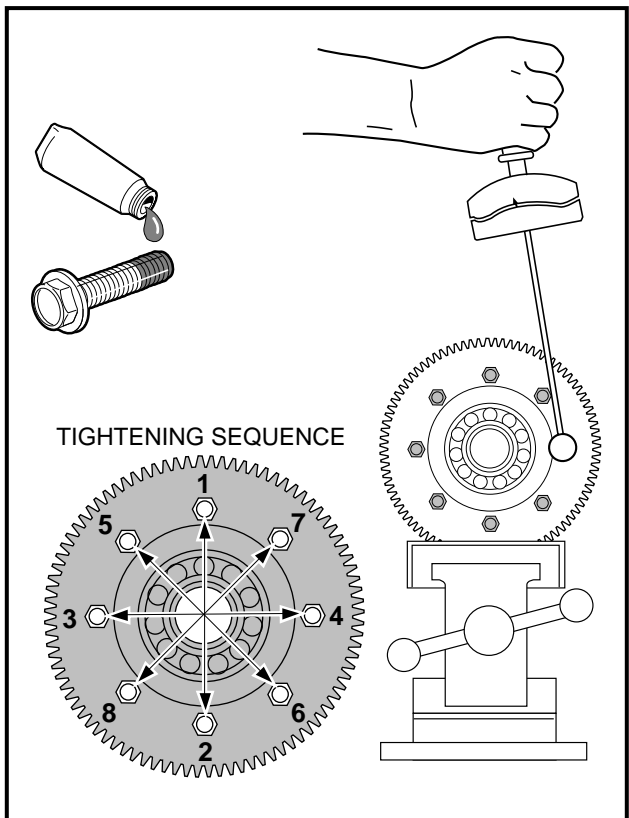

Figure 16-72 Retaining Bolts
7. Apply Loctite 277 on the threads of the eight mounting bolts and install them through the ring gear, carrier case, and into the carrier case cover. Tighten the bolts to 18 ft-lb (24.4 N·m) in the sequence shown (**Figure 16-72, Page 16-30**).